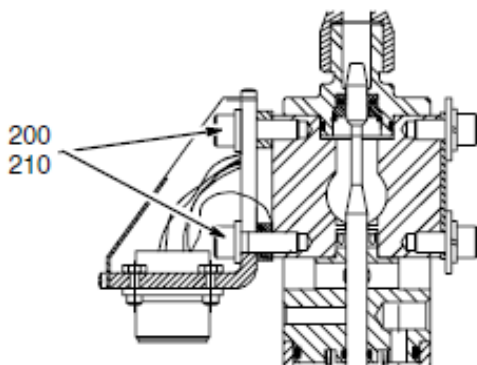

FIG. 14
- b. Remove the two socket head screws [FIG. 14, Item (200)], two washers (210). The heater cartridge (270) and sensor (320) will come out of the dispense valve body.
5. Reconnect the dispense valve to the receptacle (FIG. 14):
- a. Reattach the receptacle base to the dispense valve body and secure it with the two socket head screws [FIG. 14, Items (200) and washer (210)].